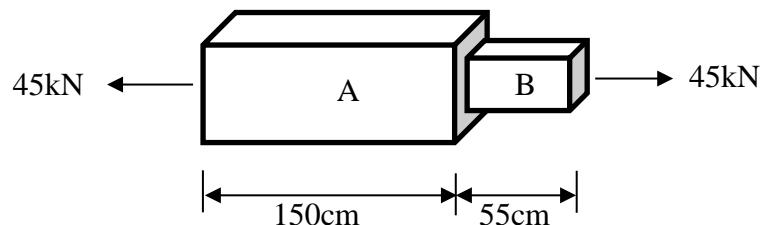

Figure 1(b) / Rajah 1(b)
- (b) **Figure 1(b)** shows a copper bar with a square cross section is subjected to a tensile force of 45kN. Section A and B have a cross section area of 850cm^2 and 420cm^2 respectively. Given $E_{\text{copper}} = 100 \text{ GPa}$. Calculate: